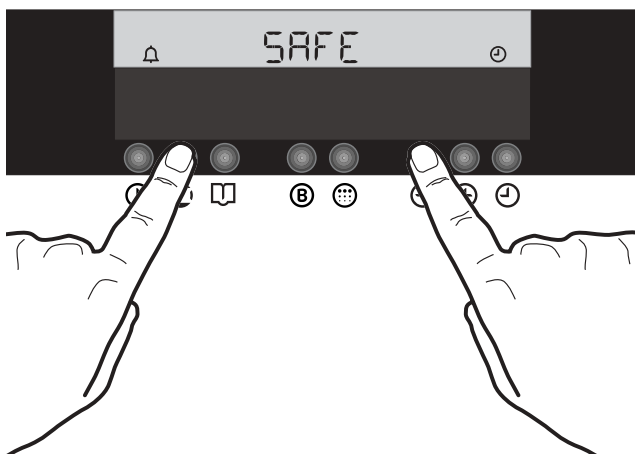

Fig. 17
1. If the oven is on, switch it off by pressing button ①.
2. Press buttons ② and ③ at the same time and keep them pressed for about 3 seconds. The Electronic Control beeps once and the message 'SAFE' appears in the display (Fig. 17).